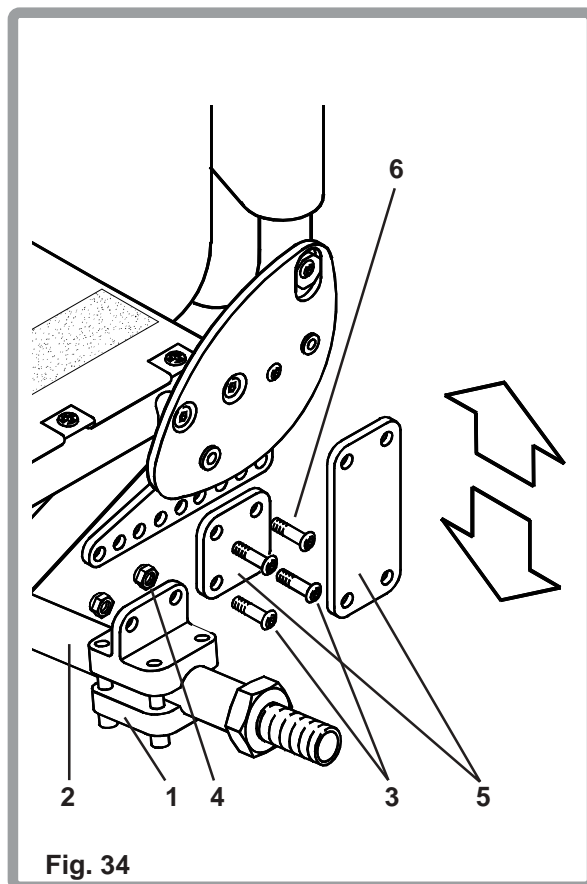

Fig. 34
The seat height (Fig. 34) is adjusted by removing the axle clamp (1) and the camber bar (2). Remove the two retaining screws (3) and nuts (4), using a 4mm Allen key and an 10mm A/F spanner, and adding an axle spacer (5), using the screws and nuts (6) provided in the kit. The screws and nuts must be tightened to 8-10Nm torque. The spacers are available in 19mm and 38mm sizes.